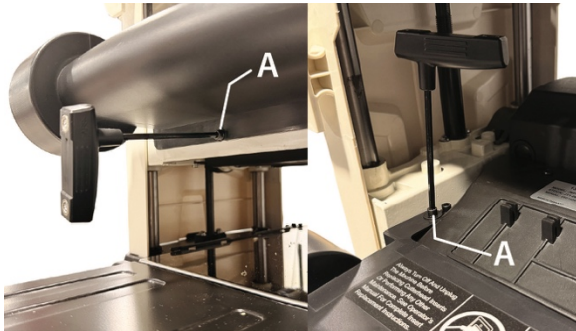

Figure 8-4
3. Loosen the four dust port mounting screws (A, Figure 8-4). Note: Only loosen the screws. They do not need to be removed.